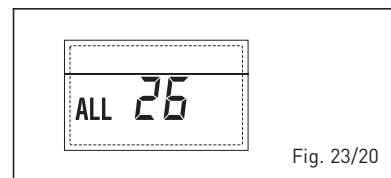

Fig. 23/20
– **ANOMALIA COERENZA APPLICAZIONE SOLARE “ALL 27”** (fig. 23/21)